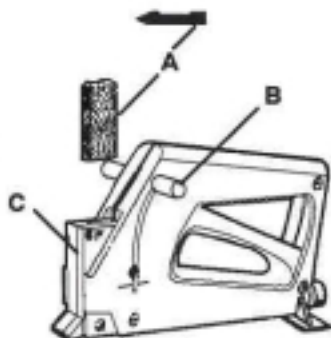

Figure 1
1. To insert a stack of framing points (A), pull follower knobs (B) up and rotate to the locked position. Figure 1.